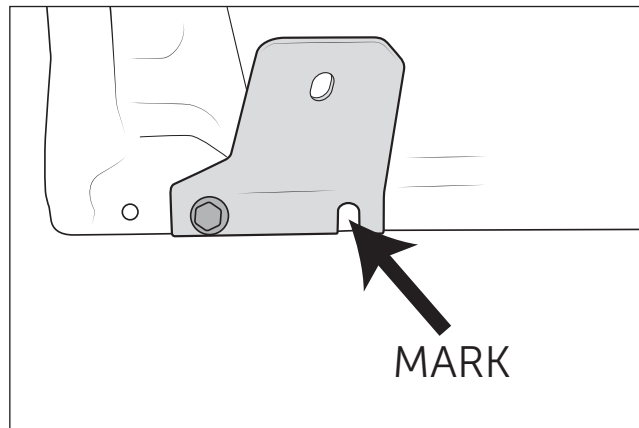

Figure 11: Driver-side shown
- A. Loosely install the bracket in the rear-most bolt location of the factory fender using the factory M6 bolts (fig 11).